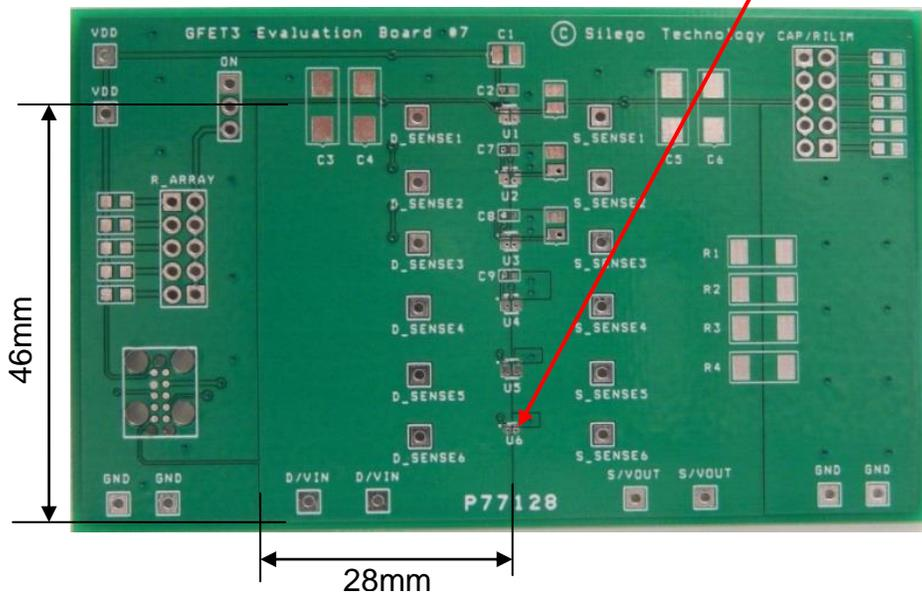

Figure 3. SLG59M1466V Evaluation Test Board
2.2. The D/VIN and S/VOUT pins carry significant current. Please note how the D/VIN and S/VOUT pads are placed directly on the power planes in Figure 3, which minimizes the RDS(ON) associated with long, narrow traces. The D/VIN, S/VOUT and GND pins dissipate most of the heat generated during high-load current condition. The layout shown in Figure 3 is illustrating a proper solution for heat to transfer as efficiently as possible out of the device.